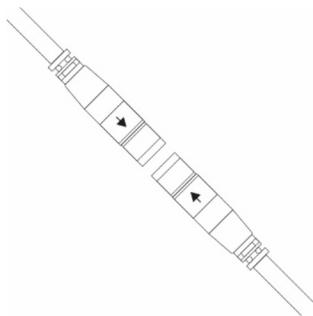

Figure 11 - Detailed view of connectors
3. Position the handlebar near the free end of the upper steering column and with the help of a second person connect the two connectors, according to the colours. There are two arrows on both connectors that must be aligned to allow insertion; press the aligned connectors, one towards the other, until the coloured part is no longer visible (**See Figure 11 - Detailed view of connectors**).